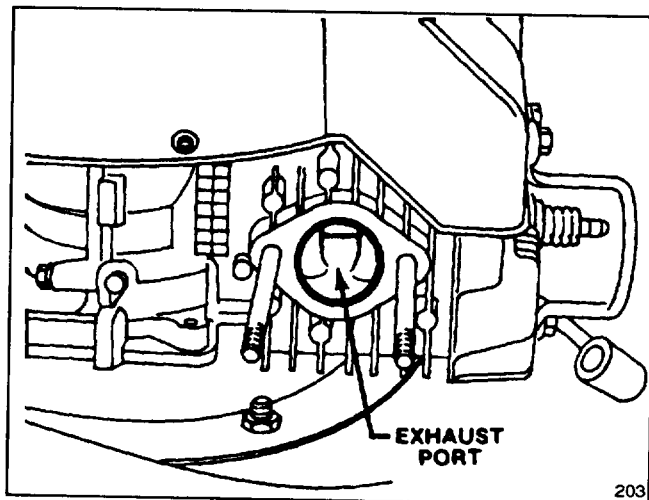

Figure 22
4. Pull wire off spark plug. Slowly pull recoil starter so piston covers exhaust port (Fig. 22).
5. Clean carbon from exhaust port (Fig. 22) with flat, hard wood scraper.
6. Reinstall muffler with screw, (2) nuts and lockwashers (Fig. 22). After cleaning exhaust port, make sure muffler gasket is still usable.